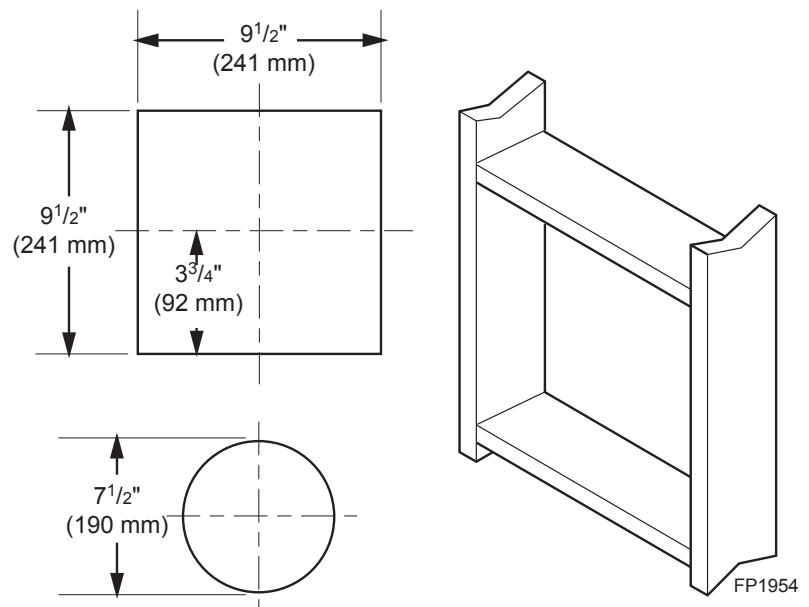

Figure 16 - Exterior Wall Framing Dimensions
Combustible Exterior Walls: Cut a 9½"H x 9½"W square hole through the exterior wall frame. *Figure 16*
3. The center of the hole should line up with the center line of the horizontal rigid vent pipe end. Pipe shall always run level or uphill on horizontal runs. Never run pipe down hill. *Figure 16*
1. Establish vent hole through the wall. *Figure 16, page 18*